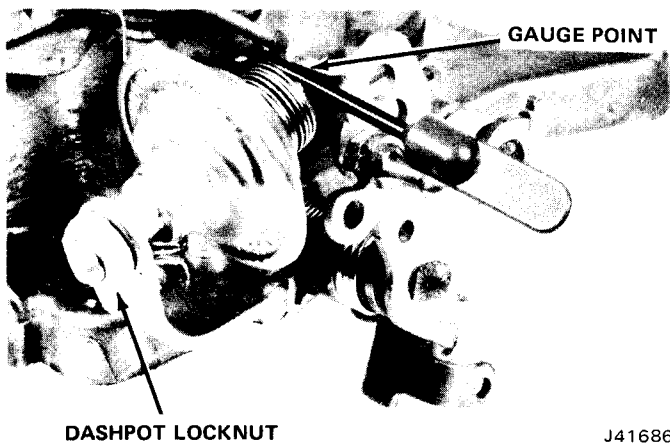

Fig. 4-85 Dashpot Adjustment
- (1) Set throttle at curb idle position.
- (2) Fully press the dashpot stem and measure the clearance between the stem and the throttle lever as shown in figure 4-85. Refer to Carburetor Service Specifications for the correct setting.